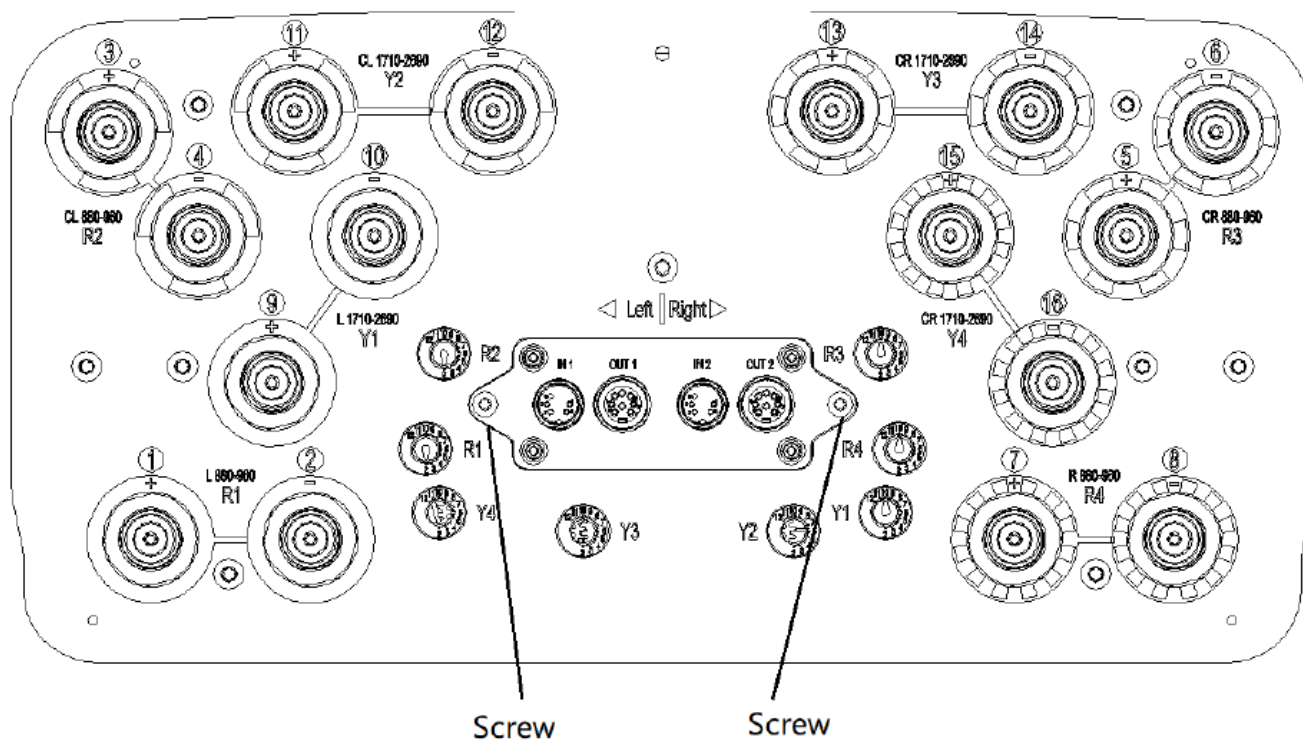

Figure 3 MIRCUCU Installation
b) As shown in Figure 3, tighten screws on MIRCUCU using a slotted type screwdriver.